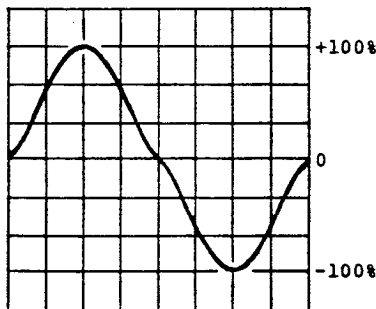

Fig. 8e (3200Hz)
tune the generator, advance R34 to reduce the waveform amplitude level to exactly +/-3 divisions p-p (Fig. 8e).
STEP 7 Carefully fine-adjust R26 and R34 so that the maximum amplitudes at approximately 3200Hz and at 1900Hz match at +/-3 divisions p-p. (Figs. 8e and 8f).